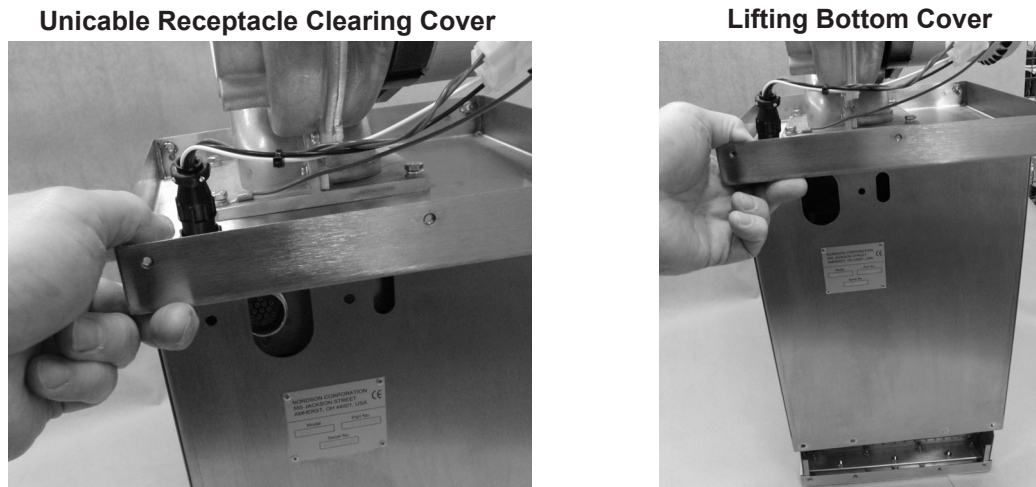

Figure 6-14 Removing the Cover
6. See Figure 6-14. Lift the bottom cover straight up and then push the unicable receptacle into the cover until it clears the cover housing.